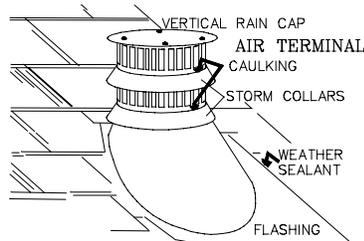

FIGURE 33
6. Apply a heavy bead of weatherproof caulking 2 inches above the flashing. Slide the storm collar around the air terminal and down to the caulking. Tighten to ensure that a weather-tight seal between the air terminal and the collar is achieved. Attach the other storm collar centred between the air intake and the air exhaust slots onto the air terminal. Tighten securely. **FIGURE 33.** Attach the vertical rain cap.
5. Thread the air terminal pipe assembly down through the roof support and attach, ensuring that a minimum 16" of air terminal will penetrate the roof when fastened. **FIGURE 33.**